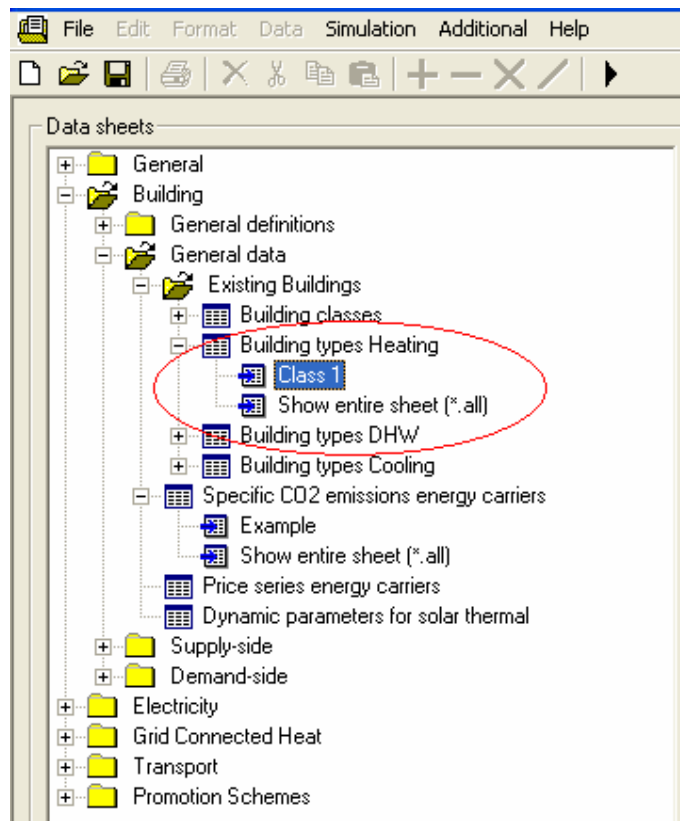

Figure 1: Sub-tables
- Problem of data input in sub-tables (sub-tables: see Figure 1). In *Invert* 1.0.0 it is possible that data which were entered in sub-tables is doubled after hitting 'Apply'. This doubled data sets result to error messages like 'Insert UNIQUE strings in cell...'. This problem will be fixed by *Invert* 1.0.1. Now it is possible to enter data also in sub-tables and not only in the overall table.
- Please note that the 'Import data from other INVERT files' is only enabled if a table is shown **and** the selected table is **not a sub-table** (see Figure 1).